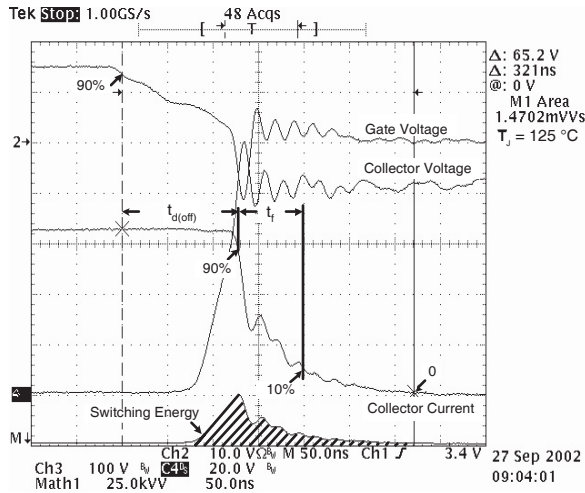

**Figure 21, Inductive Switching Test Circuit**
- ⑤  $E_{on2}$  is the clamped inductive turn-on energy that includes a commutating diode reverse recovery current in the IGBT turn-on switching loss. (See Figures 21, 22.)
- ⑥  $E_{off}$  is the clamped inductive turn-off energy measured in accordance with JEDEC standard JESD24-1. (See Figures 21, 23.)
- ⑦ Continuous current limited by package lead temperature.